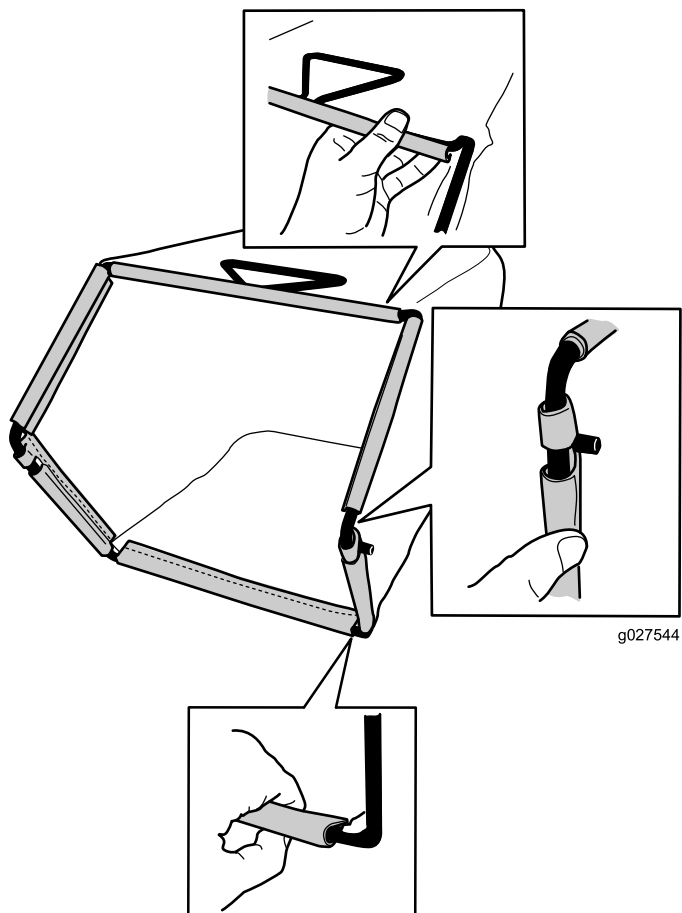

Figure 9
2. Hook the bottom channel of the bag onto the bottom of the frame (Figure 9).
- Hook the top and side channels of the bag onto the top and sides of the frame, respectively (Figure 9).